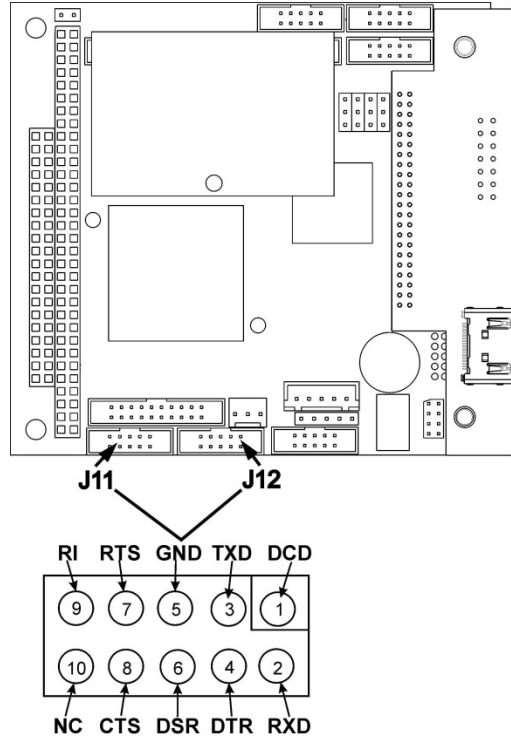

Figure 2-12. Default Pin Assignments for CPU COM Port Connector (RS-232)
The signals from these two connectors are routed from the motherboard via a wiring harness to two 10-pin connectors on the CPU card, J11 and J12 (Figure 2-12).
6. On the rear panel of each analyzer, adjust the DCE DTE switch so that the green and the red LEDs (RX and TX) of the COM1 connector (labeled RS232) are both lit. (Ensure you are using the correct RS-232 cables internally wired specifically for RS-232 communication; see Figure 2-12).